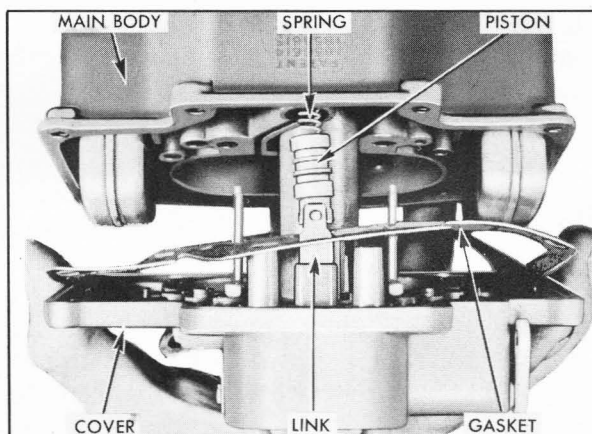

Figure 3-58—Assembling Main Body and Bowl Cover
16. Install vacuumer piston link in bowl cover with lug at center opening toward outer side of cover, then install piston on lower end of link. Invert cover and place piston spring in piston, then place main body over bowl cover while guiding spring and piston into cylinder. See figure 3-58. Use care to avoid damaging float or changing adjustment during this operation.